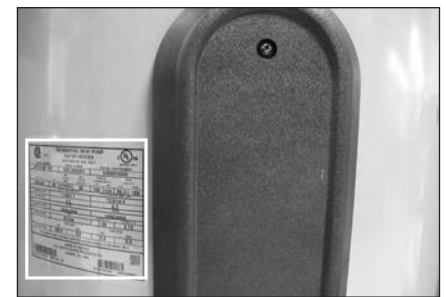

Figure 22 - The water heater’s electrical requirements can be determined from the data plate.
- 3 This water heater requires a 208/240 VAC single phase 30 amp power supply, at 50Hz or 60Hz. Check the water heater’s data plate (Figure 22) and ensure that the home’s voltage, wiring size (ampacity)